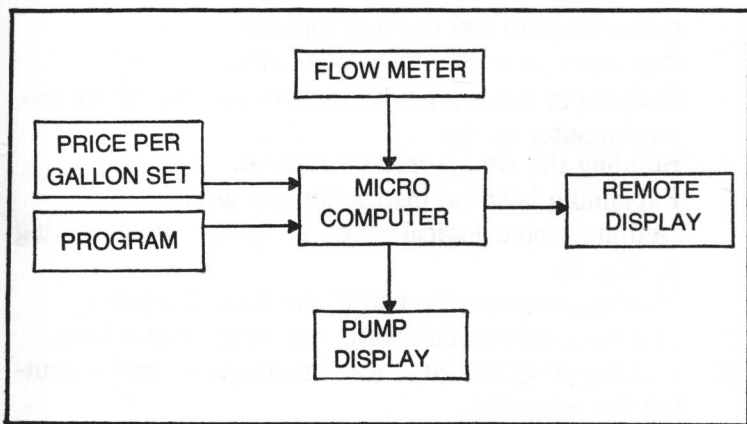

Fig. 1-4. Block diagram of a microcomputer-controlled gasoline pump.
**Input/output.** The input and output devices allow communication between the computer and the outside world. For a general-purpose computer, the input may be a keyboard, terminal, or tape unit. The output may be a printer, display, or graphics plotter. For specialized machines, the input may be a position code, flow meter, cash register keys, or another computer. The output device may be a stepping motor, gas pump display, printer, or other control device (Figs. 1-4 and 1-5).